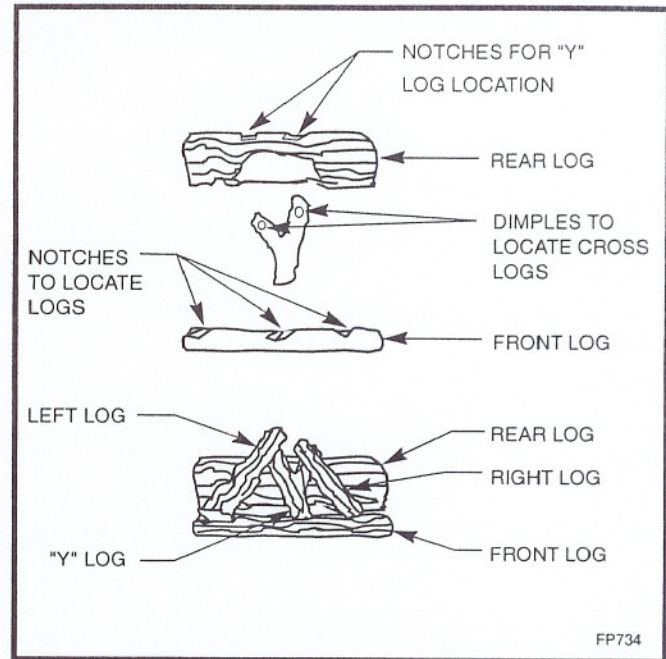

Fig. 9. Log locations.
10. LOG INSTALLATION (refer to fig. 9)